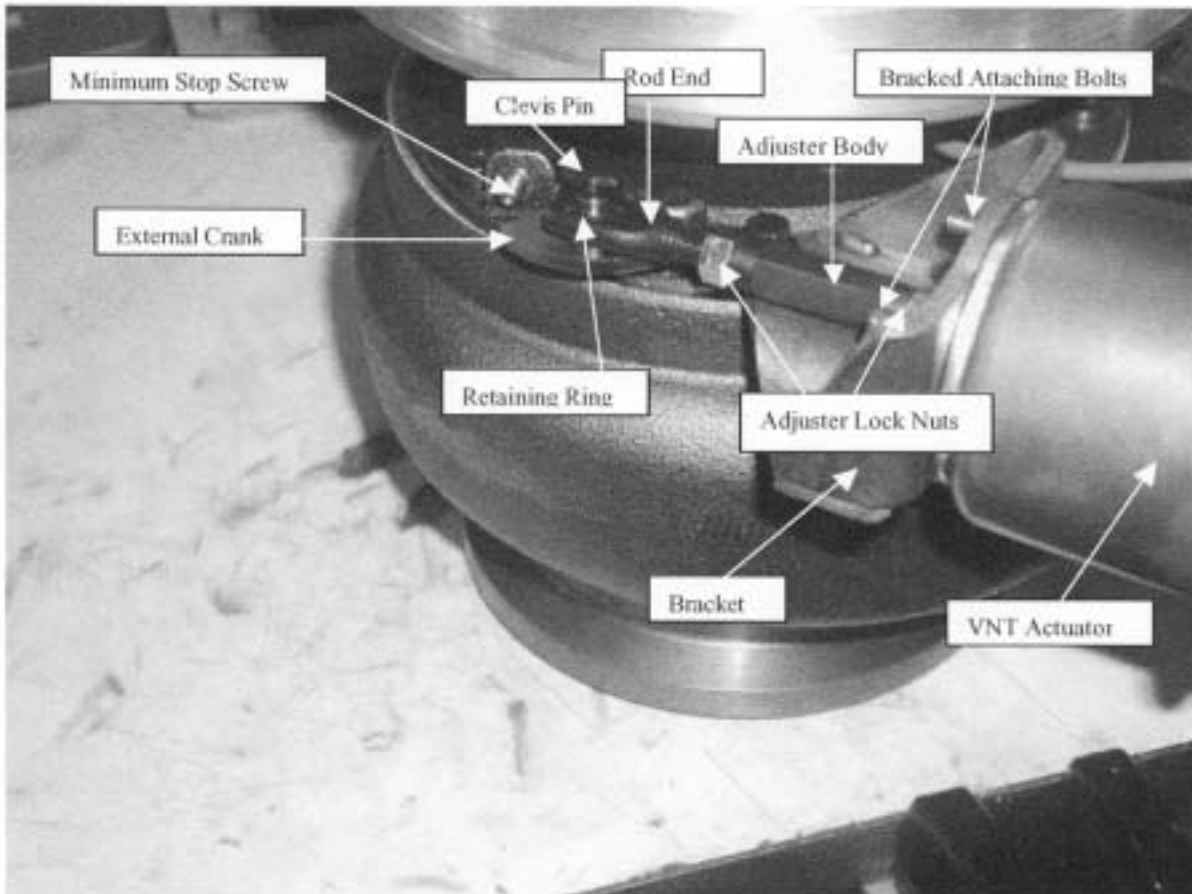

Figure 1
VNT Actuator Removal (Refer to Figure 1)
7. Rotate the **adjuster body** (see Figure 1) until a 0.004 inch $\pm$ 0.001 (0.10 $\pm$.0250 mm) gap is achieved between the stop screw and clevis. Without allowing the adjuster body to rotate, tighten the lock nuts to 6.2 – 7.9 N-m (55 – 70 in-lbs).